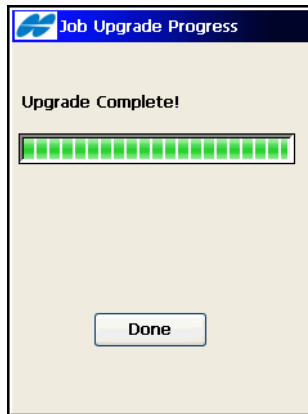

Figure 1-6. Job Upgrade Progression Bar
- **Cancel** – aborts upgrading of software. When the process is complete, the **Cancel** button turns into the **Done** button (Figure 1-6 on page 1-5).